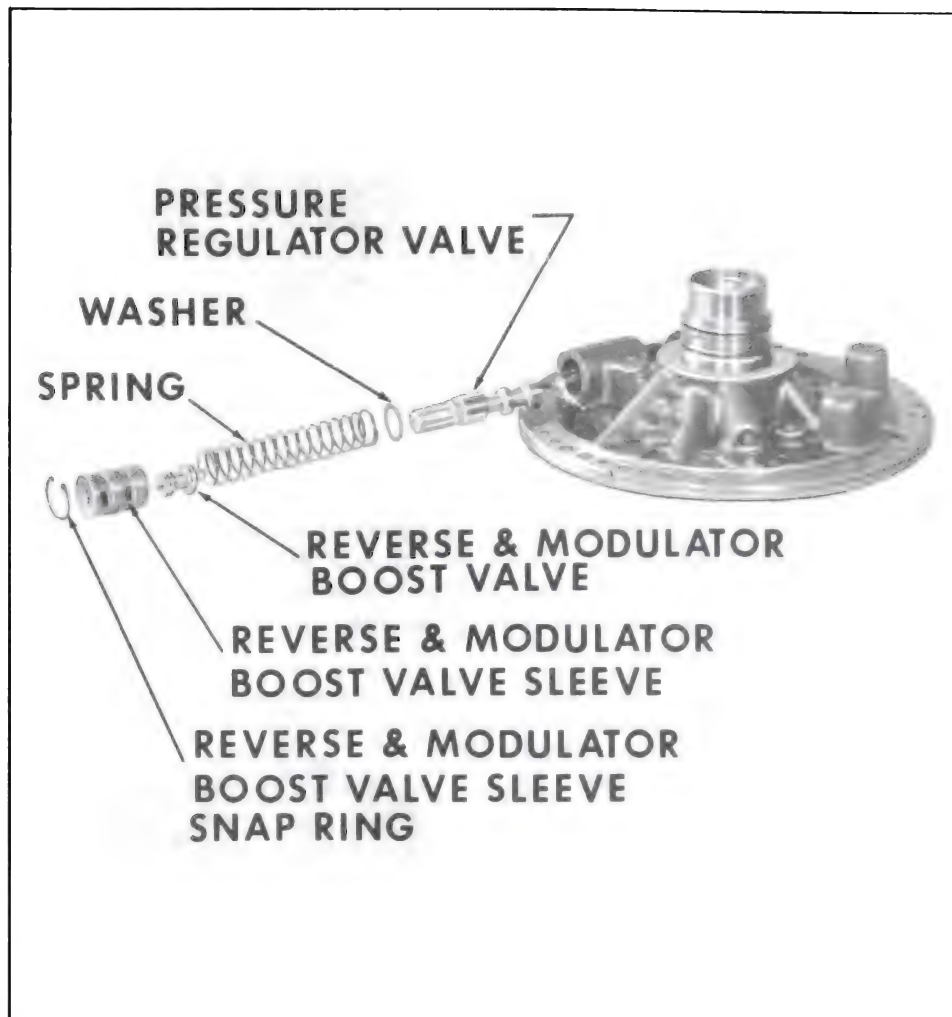

Figure 5-193
11. After retaining snap ring has been removed, remove reverse and modulator boost valve sleeve and valve, spring, washer, and pressure regulator valve. See Figure 5-193.